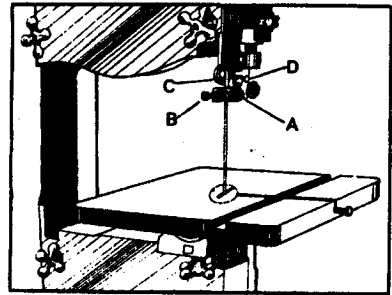

Fig. 21
The upper blade guides (A) Fig. 21. are held in place by means of the set screws (B). Loosen the set screws (B) to move the guides (A) as close as possible to the side of the blade, being careful not to pinch the blade. Then tighten the knob screw (B).
The upper blade support bearing (C) Fig. 21. prevents the blade from being pushed too far to the back which could damage the set in the saw teeth. The support bearing (C) should be set  $1/64"$  (0.4m/m) behind the blade by loosening screw (D) to move the support bearing (C) in or out. The blade support bearing (C) should also be adjusted so the back edge of the blade overlaps the outside diameter of the ball bearing by about  $1/16"$  (1.6m/m). The bearing (C) is set on an eccentric and to change position remove screw (D) and bearing (C) Fig. 21. Loosen screw (D). and reposition shaft that bearing (C) is attached to.